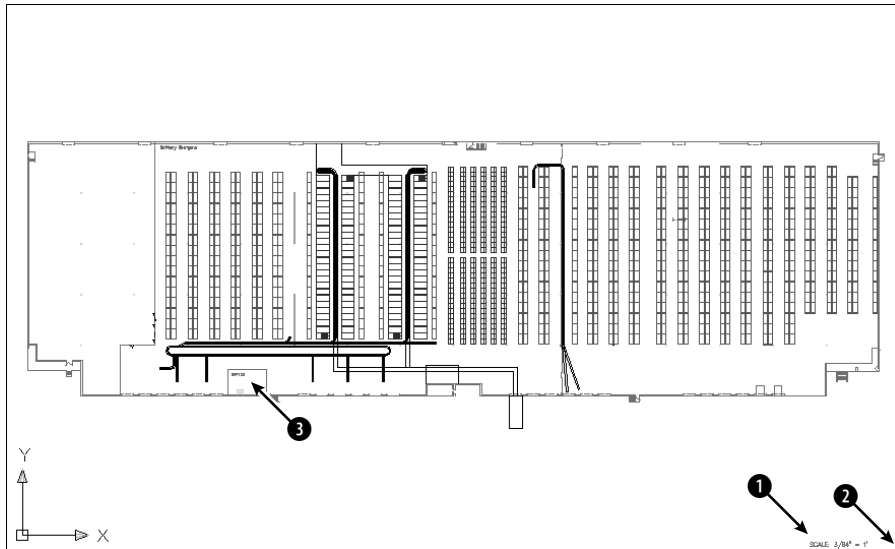
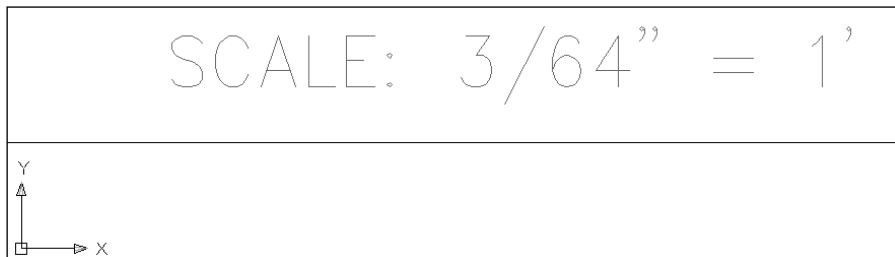

Figure 8-5: A drawing of a large warehouse, with shelving and conveyor belts.
Figure 8-6: Your display should look approximately like this figure after using ZOOM Window.
1. Open `ab08-b.dwg` from the CD-ROM. This is a drawing of a warehouse, as shown in Figure 8-5.
3. At the Specify first corner: prompt, pick ①, as shown in Figure 8-5. At the Specify opposite corner: prompt, pick ②. AutoCAD or AutoCAD LT zooms in to display the window you specified, as shown in Figure 8-6.
7.  Choose Zoom Center from the Zoom flyout. At the Specify center __point: prompt, pick ❸ in Figure 8-5. At the Enter magnification or height <5315.176>: prompt, type 500 ↵. You zoom in on the office.